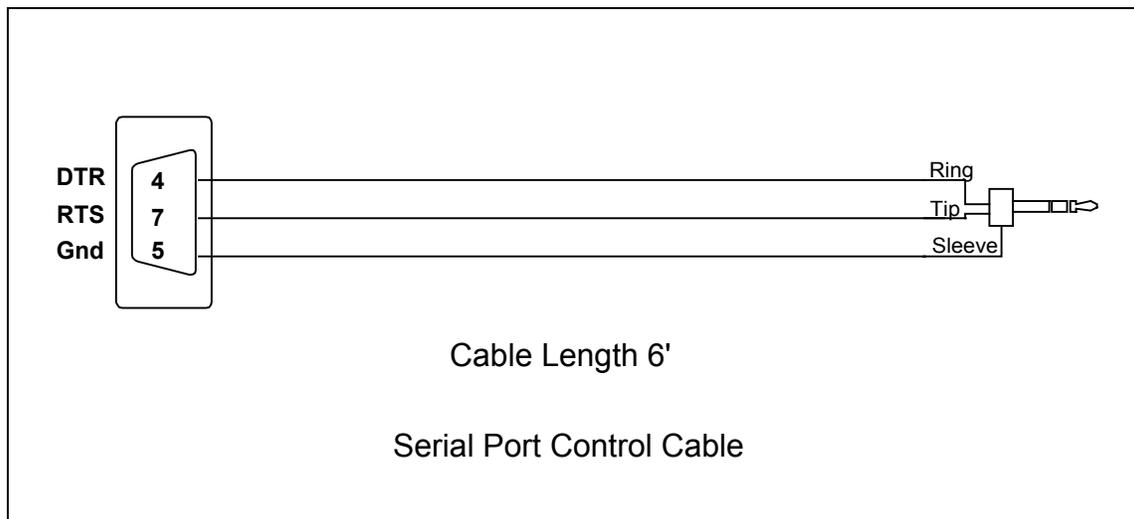

Figure 5.3 Serial Port Control Cable
5.1.1 Polarized Components - There are some components which are polarized or keyed, so attention must be paid to the orientation of the components that go on the board. These polarized/keyed components will be marked with ** in the component stuffing chart, figure 5.3.
5.2.1 Serial Port Cable - The Serial Port Cable is a 6 foot cable with a DB9 on the PC end, and a three conductor 2.5mm stereo plug on the interface end. The two control signals RTS and DTR are carried on this cable. See Figure 5.3, *Serial Port Control Cable*, for details on construction of this cable. All parts for this cable are included in the parts list, except the wire for the cable.